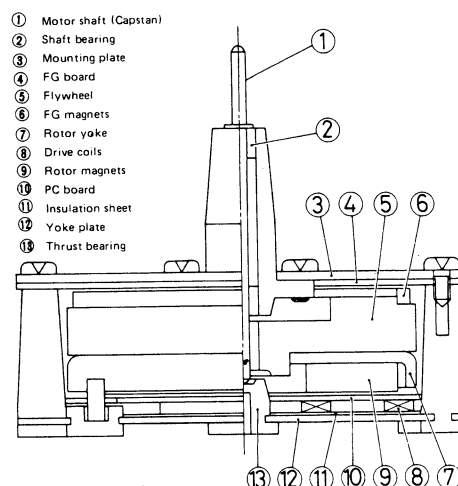

Fig. 6
This motor is an opposed-plane no-commutator motor which incorporates an RPM detecting mechanism (FG) as shown in Fig. 6. The rotor consists of drive magnets and that combination of a Zn diecasting flywheel and FG magnets which enhances the effect of the flywheel.